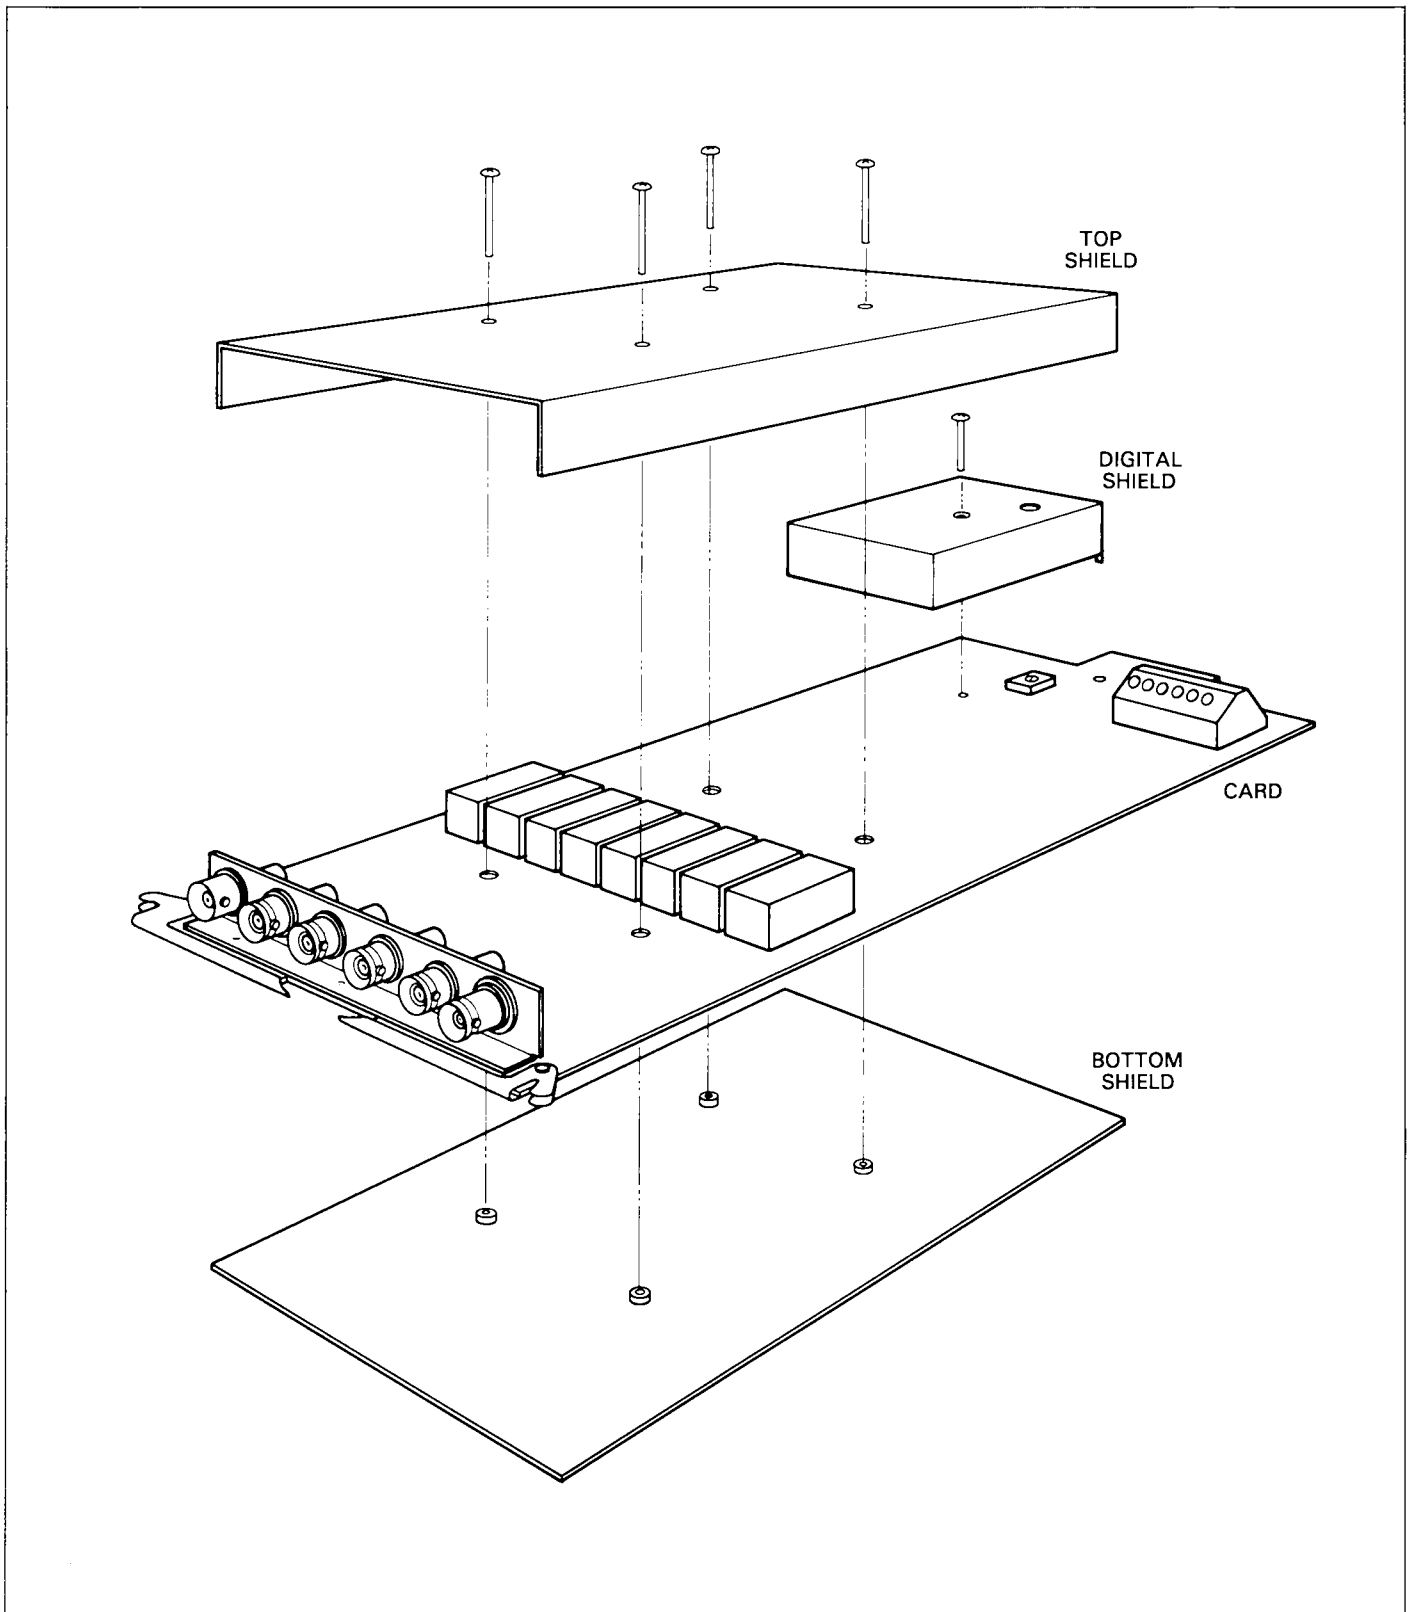

Figure 2-22. Shield Removal
2. Remove the large analog shield from the Model 7065 card, as shown in Figure 2-22.